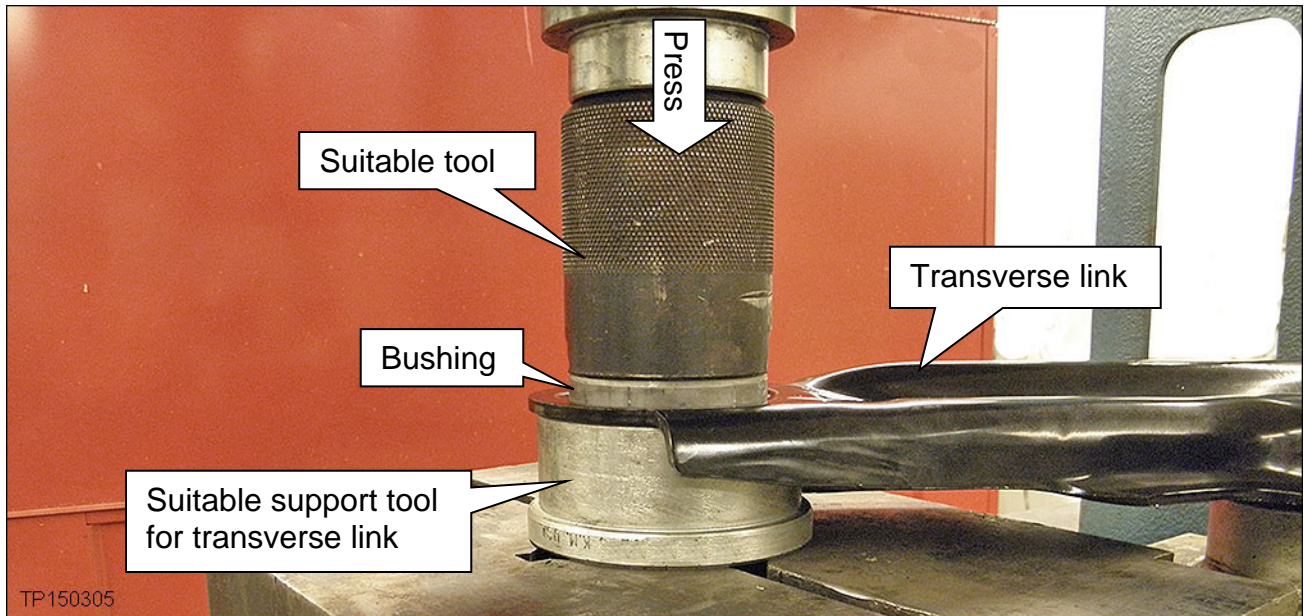

Figure 2
3. Place the transverse link in a flat fixture that supports the transverse link on each side of the bushing as shown in Figures 2 and 3.